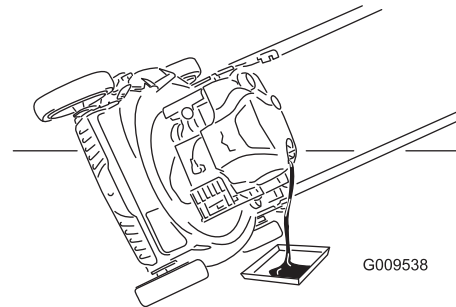

Figure 35
4. Tip the machine onto its side with the air filter up to drain the used oil out through the oil-fill tube (Figure 35).